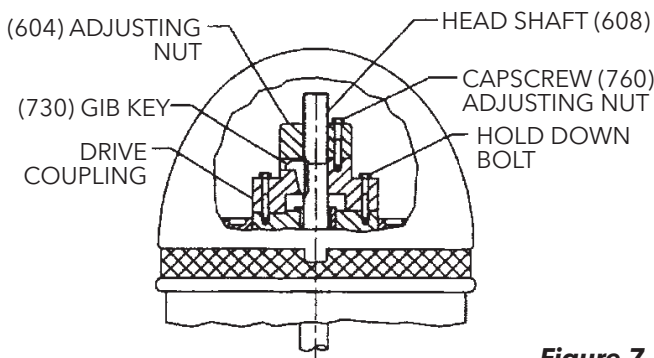

Figure 7
1. The driving mechanism of all hollow shaft driver is shown on Figure 7. The head shaft (608) extends up through the quill or hollow shaft of the driver and is held in place by an adjusting nut (604), which not only carries all the static and hydraulic thrust of the impellers and shaft, but also provides the adjustment for the impeller clearances. The head shaft is connected to top shaft (or stub shaft) by a threaded coupling or a rigid flange coupling.